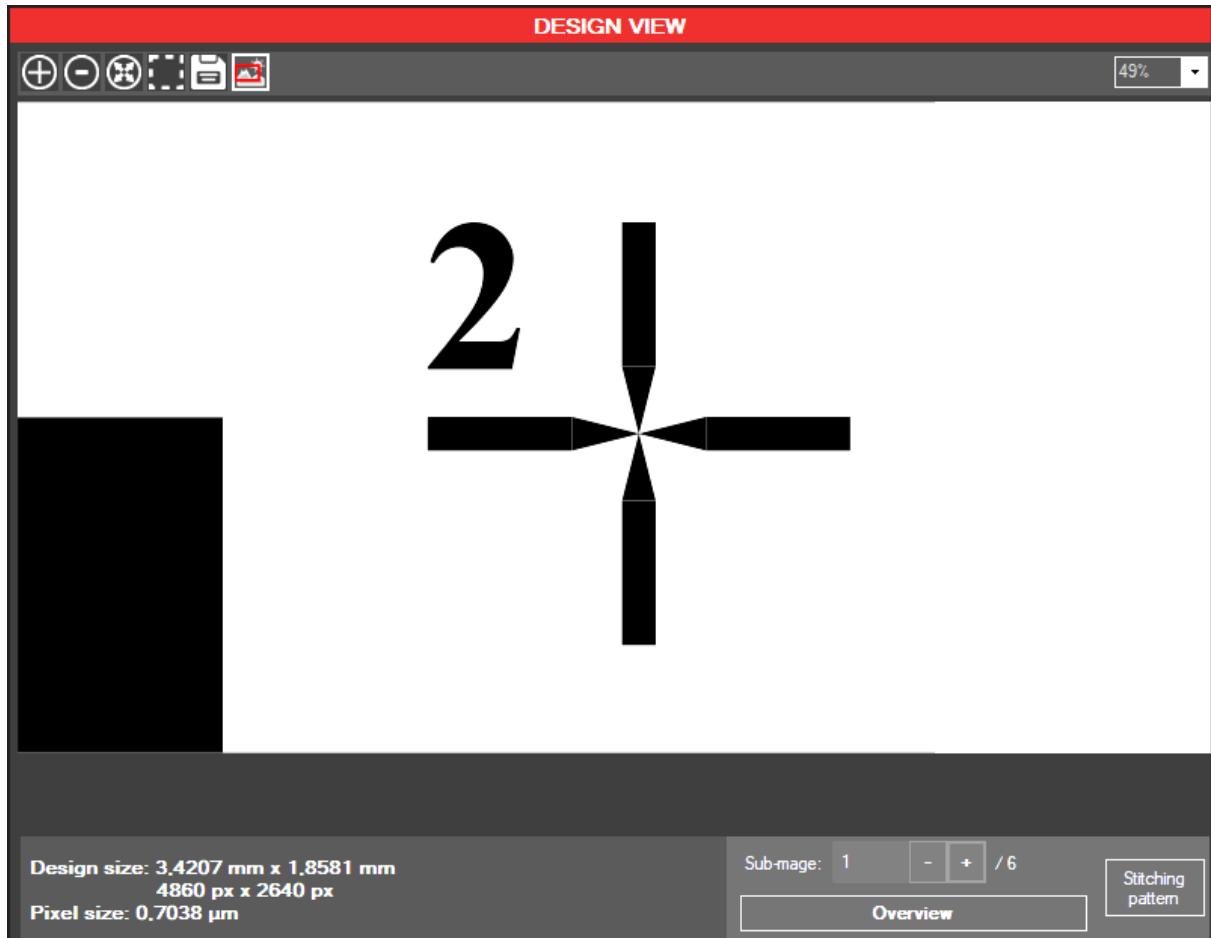

Figure 65 - Semi-auto alignment: defining optional point P2
- Selection of point P2 (Figure 61d): selecting a second point of interest will help to improve the substrate rotation adjustment and then the overall quality of the alignment. To do so, click on the **(Overlay pos. P2)** button. Select a point on the **IMAGE VIEWER** panel ideally situated at the opposite of the previously selected P1 as shown in Figure 65